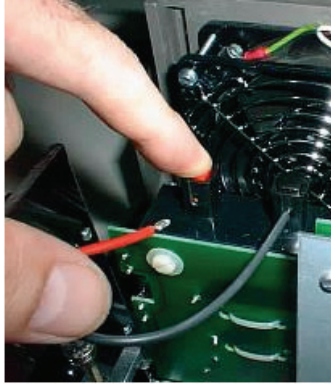

Figure 125 Disconnecting the cables
6. Press each connector in turn and remove the cables, as shown in Figure 125.